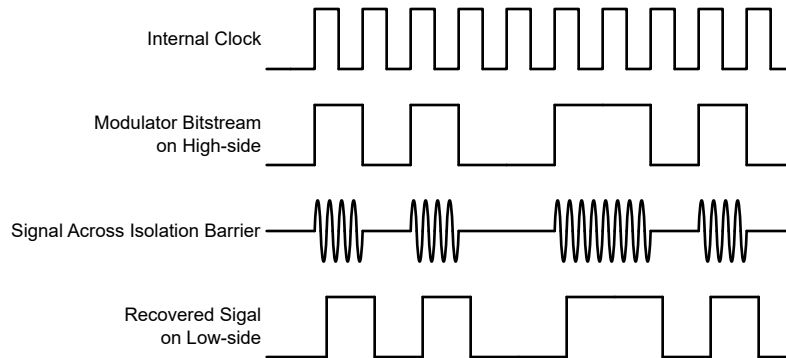

Figure 7-1. OOK-Based Modulation Scheme
The AMC1411-Q1 uses an on-off keying (OOK) modulation scheme, as shown in Figure 7-1, to transmit the modulator output bitstream across the SiO₂-based isolation barrier. The transmit driver (TX) shown in the *Functional Block Diagram* transmits an internally-generated, high-frequency carrier across the isolation barrier to represent a digital *one* and does not send a signal to represent a digital *zero*. The nominal frequency of the carrier used inside the AMC1411-Q1 is 480 MHz.